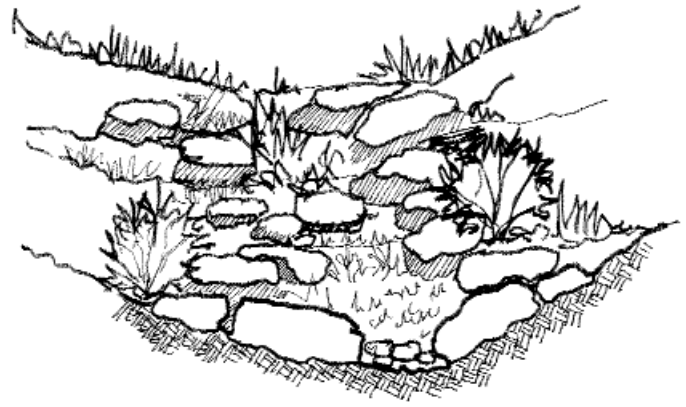

Figure 2.5d - Natural Gulch
- Improved channels or drainage Improvements are to be designed to appear and function like natural drainage ways. Any on-site drainage outlets shall utilize an energy dissipation device to reduce stormwater impact. See Figure 2.5d